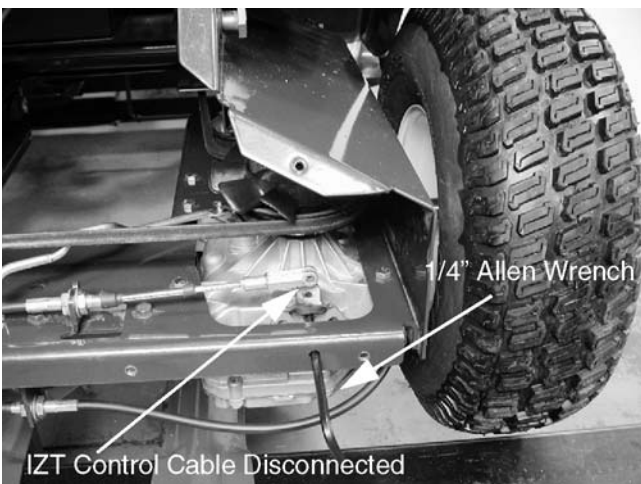

Figure 11-30
1. Remove any rear mounted accessories. See Figure 11-30.